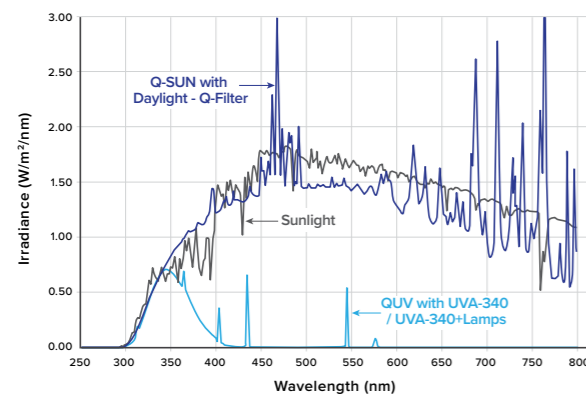

Figure 1- Q-SUN and QUV Testers vs Sunlight
The Q-SUN (xenon arc) and QUV (fluorescent UV) are the most commonly-used accelerated weathering testers. The two testers are based on completely different approaches, but both deliver light, heat, and water to test specimens. The xenon test chamber reproduces the entire spectrum of sunlight, including ultraviolet (UV), visible light, and infrared (IR). A xenon arc lamp with appropriate optical filters essentially simulates sunlight itself from 295-800 nm (see Figure 1 below).
The QUV Accelerated Weathering Tester, on the other hand, does not attempt to reproduce sunlight, just the damaging effects of sunlight that can occur from 300-400 nm (Figure 1). It is based on the concept that, for durable materials exposed outdoors, short-wave UV causes the most weathering damage.